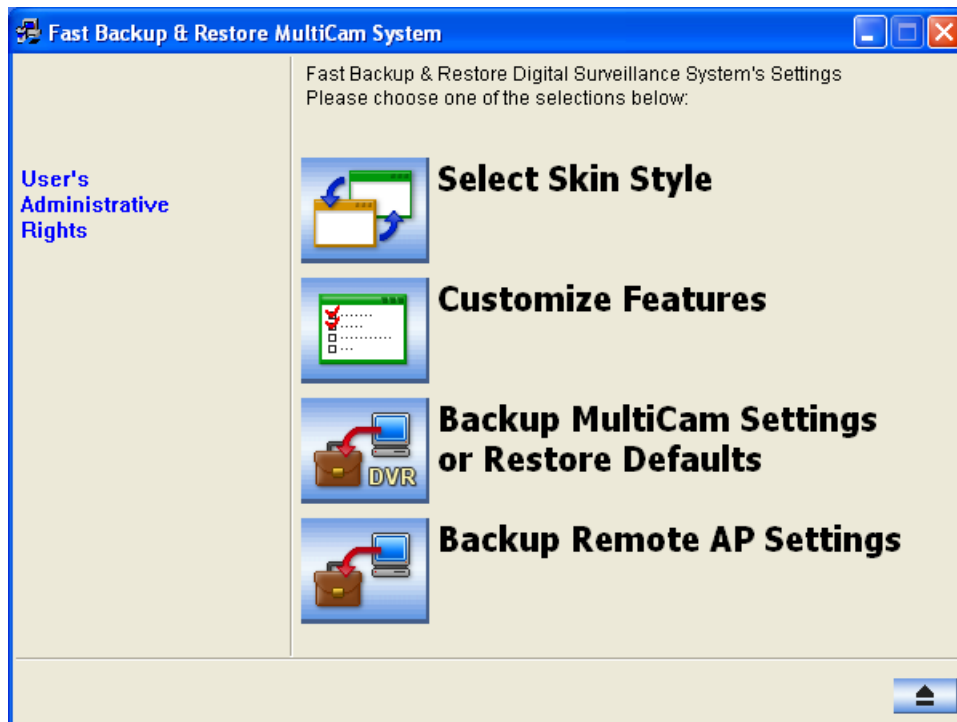

Figure 11-35 FBR Window
1. In the FBR window (Figure 11-35), click the **Select Skin Style** icon. The option menu appears.
1. In the FBR window (Figure 11-35), click the **Select Skin Style** icon, point to **DVR**, and then select **Custom Logo**. This window appears.
1. In the FBR Window (Figure 11-35), click the **Customize Features** icon to display this dialog box.
1. In the FBR window (Figure 11-35), click the **Backup System Settings or Restore Defaults** icon, and select **Backup Current System**. This dialog box appears.